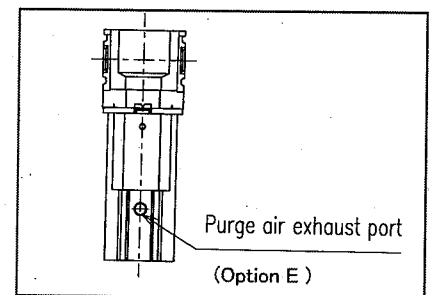

Fig.7
- 5) In case of the option E of SU300 series, piping of exhaust air should use the hose or piping material of I. D. 5.7 mm or more, and give length as less than 3m. (Refer to Fig. 7)
- 5) In case of the option E of SU400 series, piping of exhaust air should use the hose or piping material of I. D. 7.2 mm or more, and give length as less than 3m. (Refer to Fig. 7)